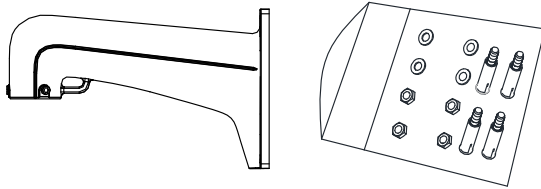

Figure 3-4 Bracket and Accessories
- The bracket in Figure 3-4 is the recommended bracket for this series of speed dome, and a pendant adapter is required if any other bracket is selected. The dimension of pendant adapter is $G1\frac{1}{2}$.
- The bracket in Figure 3-4 is the recommended bracket for this series of speed